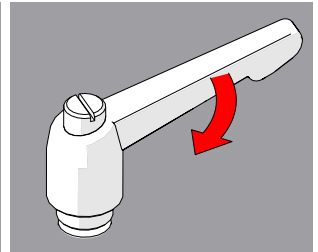

Fig. 34 - Tighten handle
3. Release the lever and utilize the new tightening position (Fig. 34).